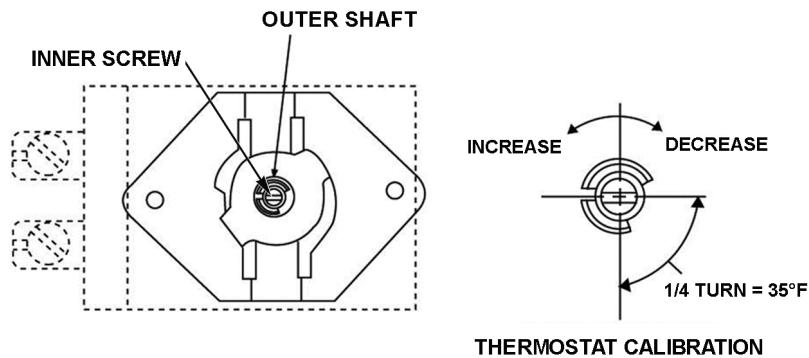

Fig. 72
- B. While holding outer shaft in place, turn inner screw using a small flat edge screwdriver 1/8 turn clockwise to decrease and counterclockwise to increase. 1/4 turn = 35°F. See Fig. 72 below.
- B. While holding outer shaft in place, turn inner screw using a small flat edge screwdriver 1/8 turn clockwise to decrease and counterclockwise to increase. 1/4 turn = 35°F. See picture Fig. 72 under CONVECTION OVEN THERMOSTAT-COMBO VALVE ADJUSTMENT.